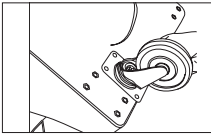

Figure 1
- Caster Assembly:** Attach the casters to the drain using the bolts and washers provided (Figure 1).